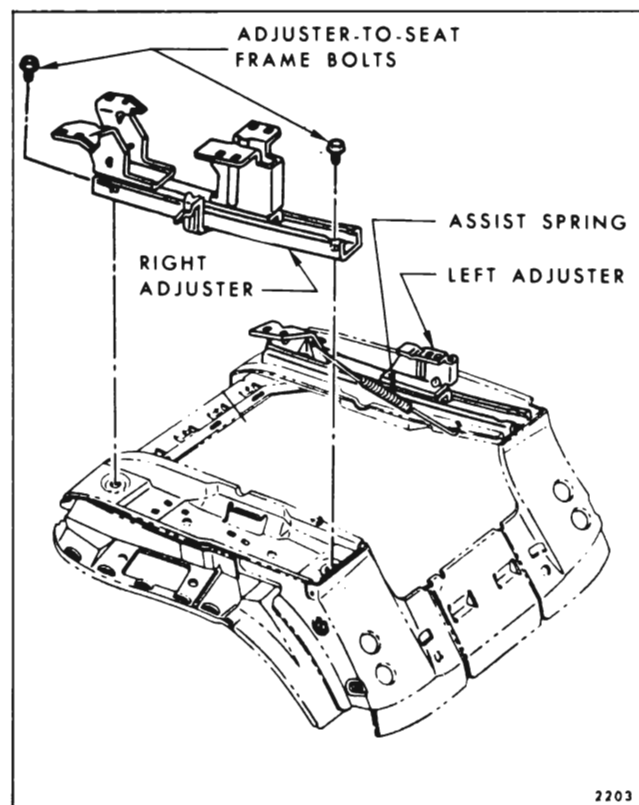

Fig. 15-40—Manual Bucket Seat Adjuster Removal
2. If replacing inboard adjuster, remove assist spring (Fig. 15-40).